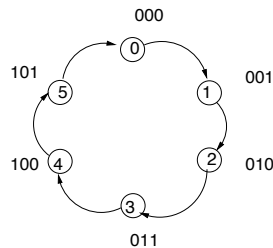
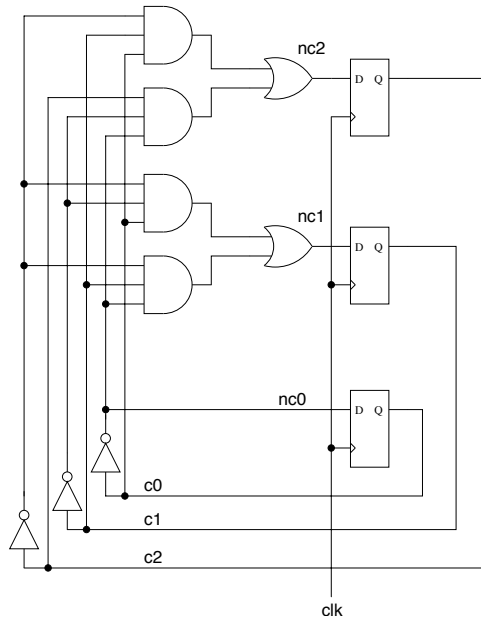

Figure 1: Modulo Counter FSM
Figure 2: Modulo Counter Circuit
*First note that we need to be able to count up to 6, which means that we need 3 bits to represent all the possible states of our FSM. The state machine can be seen in Figure 1. From this FSM we can derive the transition table and from that we have the circuit shown in Figure 2.*